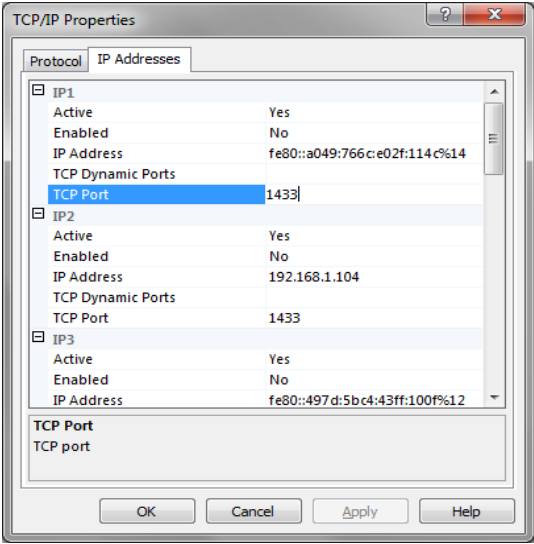

Fig.1.13 TCP/IP Properties
**Step Eleven:** Right click “ TCP / IP ”, select “ IP Address ” under “Properties” or double click to open the settings panel and select the “IP Address” tab,then set port of TCP as “1433”, and click “OK” button. (see Fig.1.13).